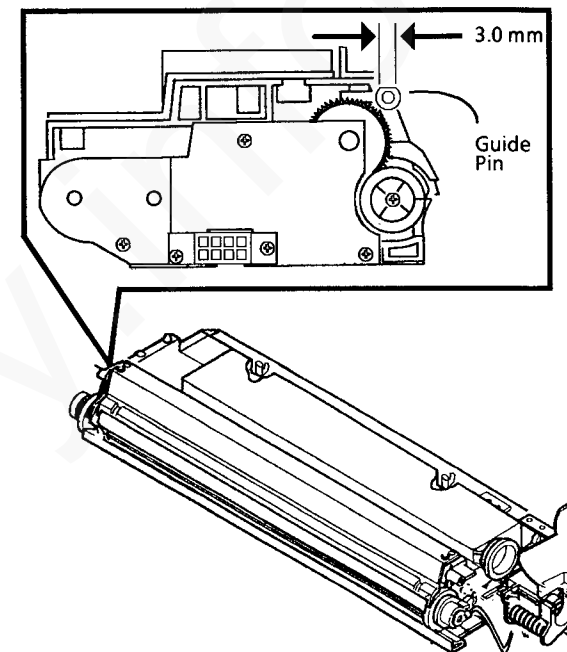

Figure 1. Removing Material from the Guide Pin
2. Use the flat file to remove material from the rear Guide Pin so that 3.0 mm can be measured across the flat part that remains (Figure 1).